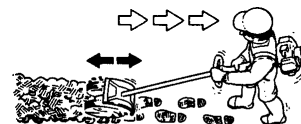
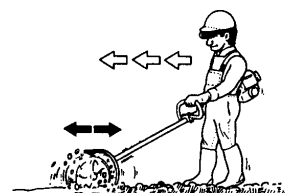

Fig. 6
Fig. 5
- a. For standard tilling. Walk forward as pulling and pushing the unit little by little like using a vacuum cleaner. (Fig. 5) When you want to erase your foot-prints, pull the unit backwards. (Fig. 6)